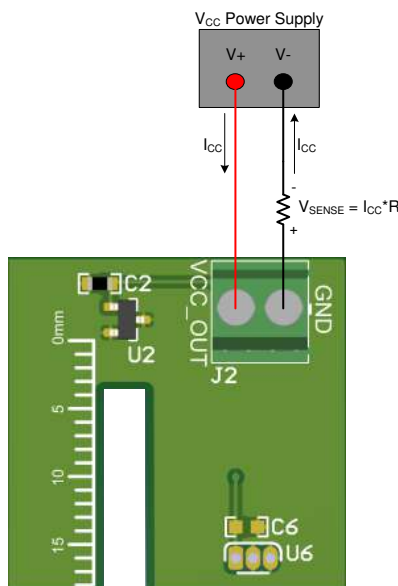

Figure 4-1. TMAG5124EVM Coupon Board Standalone Diagram
3. Connect the remaining side of the resistor to the V- side of the external DC supply. When this is complete, verify that the setup is as shown in Figure 4-1 below.